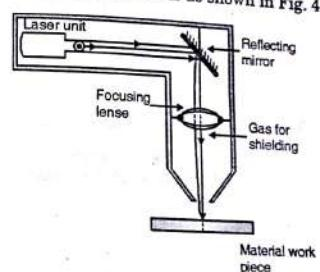

Fig. 4.14.2 : Laser welding machine
- (1) **For welding and melting :** In very short time metal can be melt and then it will be evaporating. Thus accurate welding and melting of the hard material can be done very easily. Using laser perfect and non porous joints of metals are possible. The typical laser welding machine is as shown in the Fig. 4.14.2.
The typical laser welding machine is as shown in Fig. 4.14.2.